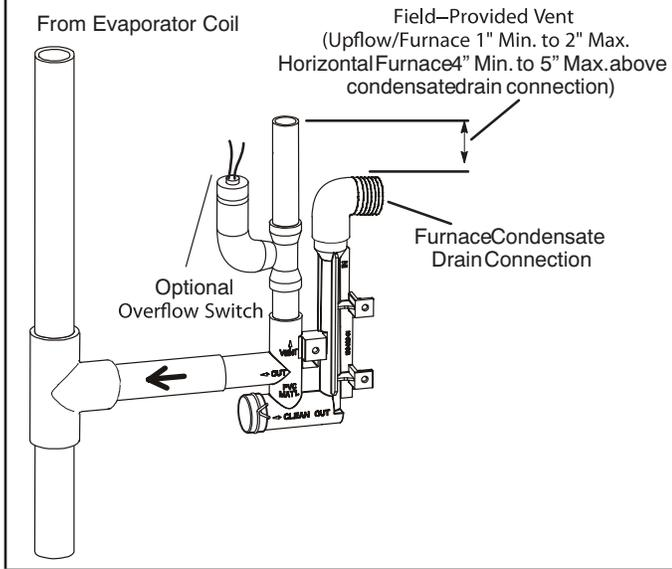
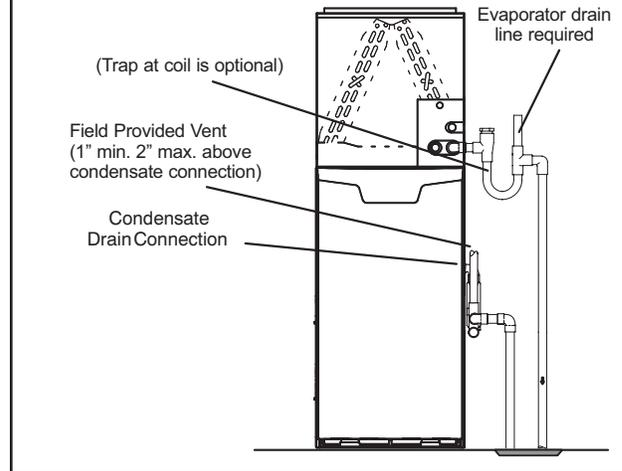
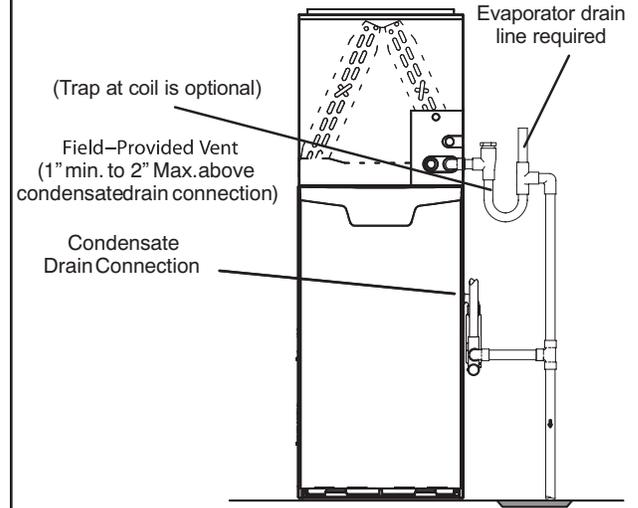
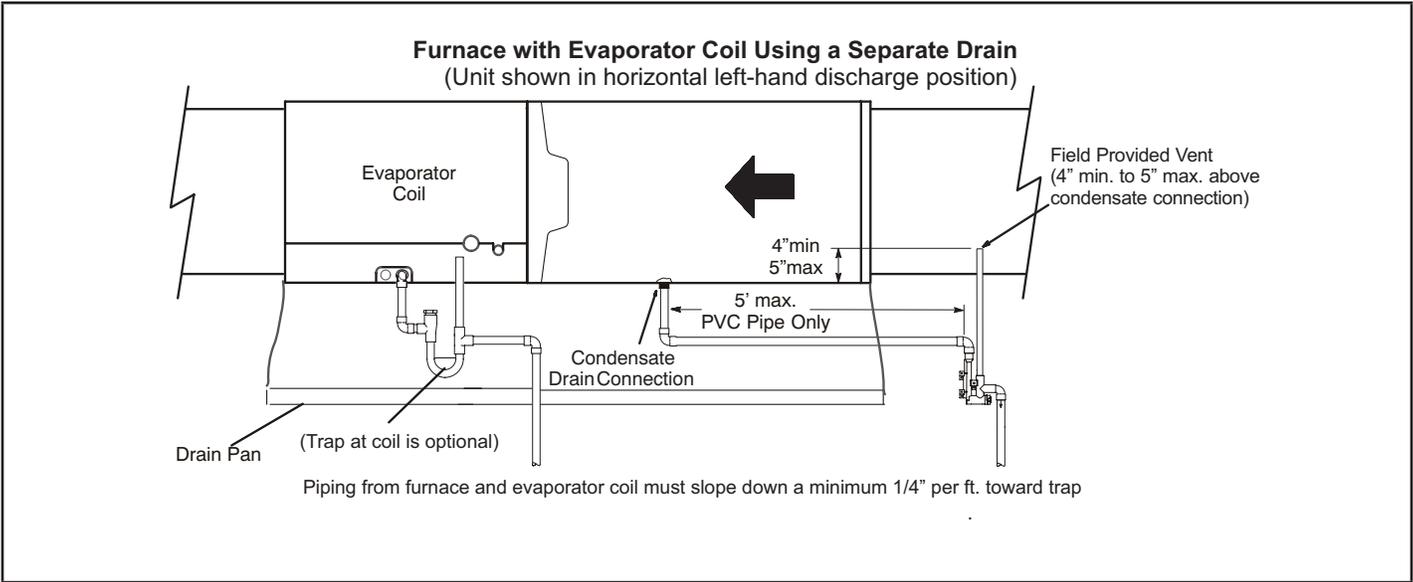

FIGURE 49
FIGURE 50
FIGURE 51
FIGURE 52
- 5 - FIGURE 50 and FIGURE 52 shows the furnace and evaporator coil using a separate drain. If necessary the condensate line from the furnace and evaporator coil can drain together. See FIGURE 49, FIGURE 51 and FIGURE 53. **Upflow furnace (FIGURE 51)** - In upflow furnace applications the field provided vent must be a minimum 1" to a maximum 2" length above the condensate drain outlet connection. Any length above 2" may result in a flooded heat exchanger if the combined primary drain line were to become restricted. **Horizontal furnace (FIGURE 52)** - In horizontal furnace applications the field provided vent must be a minimum 4" to a maximum 5" length above the condensate drain outlet connection. Any length above 5" may result in a flooded heat exchanger if the combined primary drain line were to become restricted.